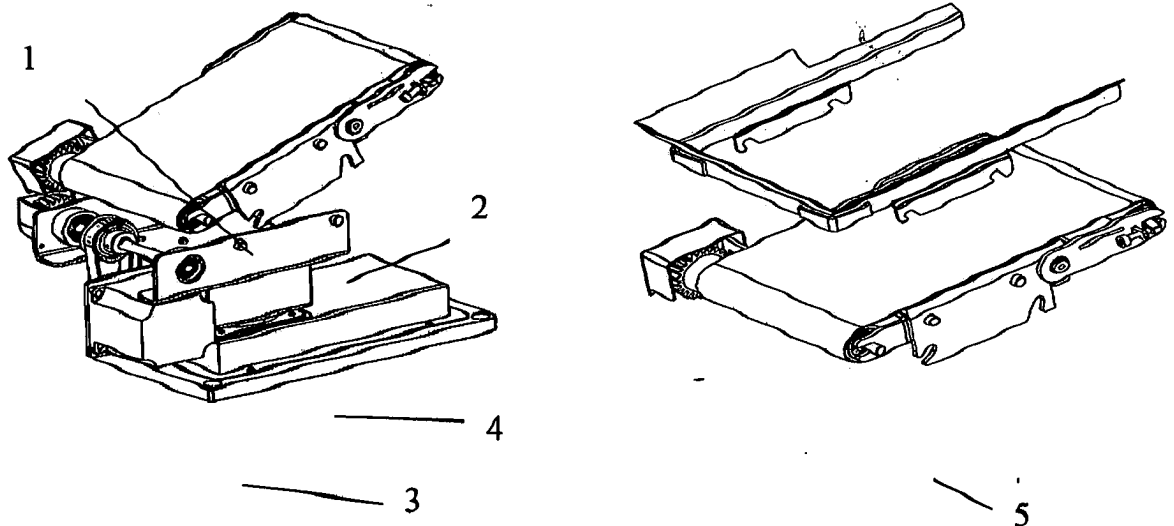

Fig 2.2 Fig 2.3
1. Install the small belt parts: See Fig 2.2 Insert the part 1 into the part3, and then insert the part2 into part4.